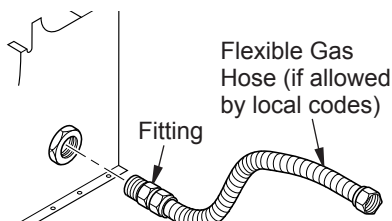

Figure 10 - Attaching Flexible Gas Hose to Heater
1. Connect approved flexible gas hose to gas control fitting in heater (see Figure 10, page 13).